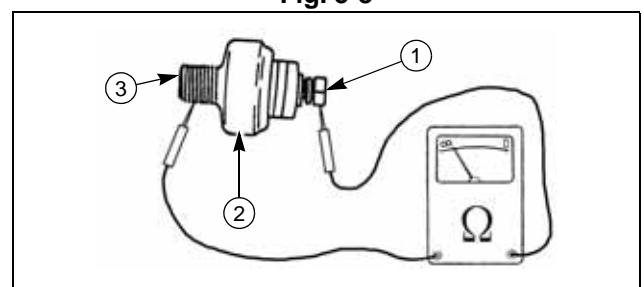

Fig. 5-9
- Using an ohmmeter, touch one test lead to the pressure switch terminal, ① (page 5-3, Fig. 5-9), and the other test lead to the threads of the switch body, ② (page 5-3, Fig. 5-9).
- While the test leads are connected to the switch, pressurize the switch oil pressure port ③ (page 5-3, Fig. 5-9), with low pressure 10.0–20.0 psi (69–138 kPa) {0.7–1.4 kgf/c²} compressed air.
2. Install the ring terminal onto the oil pressure switch, and secure the terminal with the retaining screw, ①, (page 5-3, Fig. 5-9).